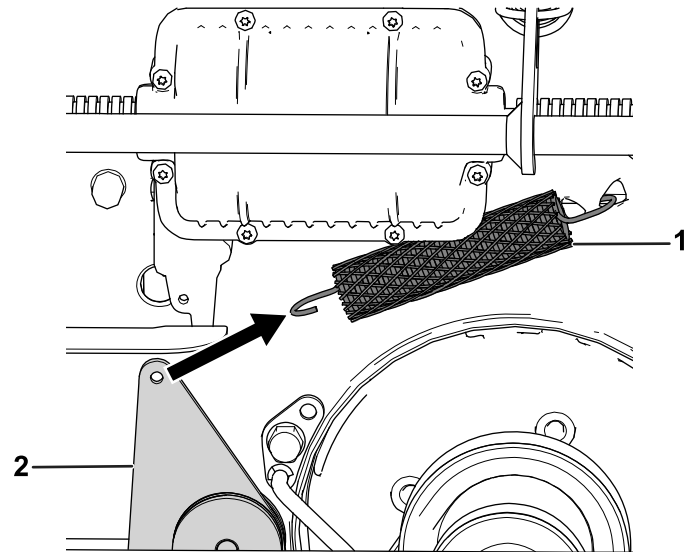

Figure 4
8. Remove the brake-extension spring from the brake arm (Figure 4).